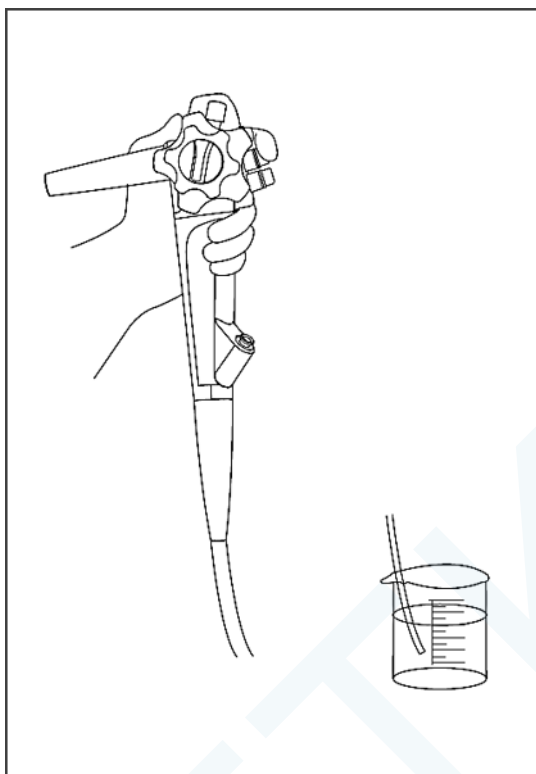

Figure 7.7
3. Insert the distal tip into the washing solution. Press the suction button and draw the detergent into the instrument channel for about 50 seconds. (Figure 7.7)